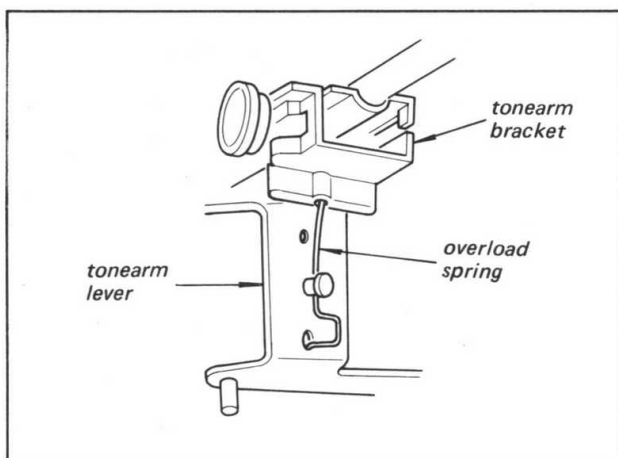

Fig. 1-6. Overload spring installation
3. Install the overload spring as shown in Fig. 1-6.